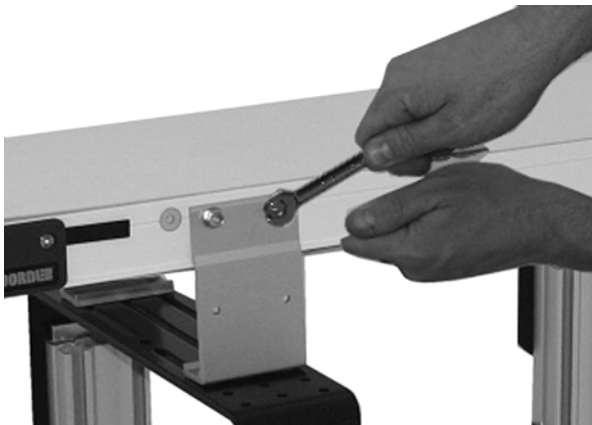

Figure 22
4. Hand tighten the screws to secure (**Figure 22**). Recommended torque is 150 in.lbs (17 Nm).